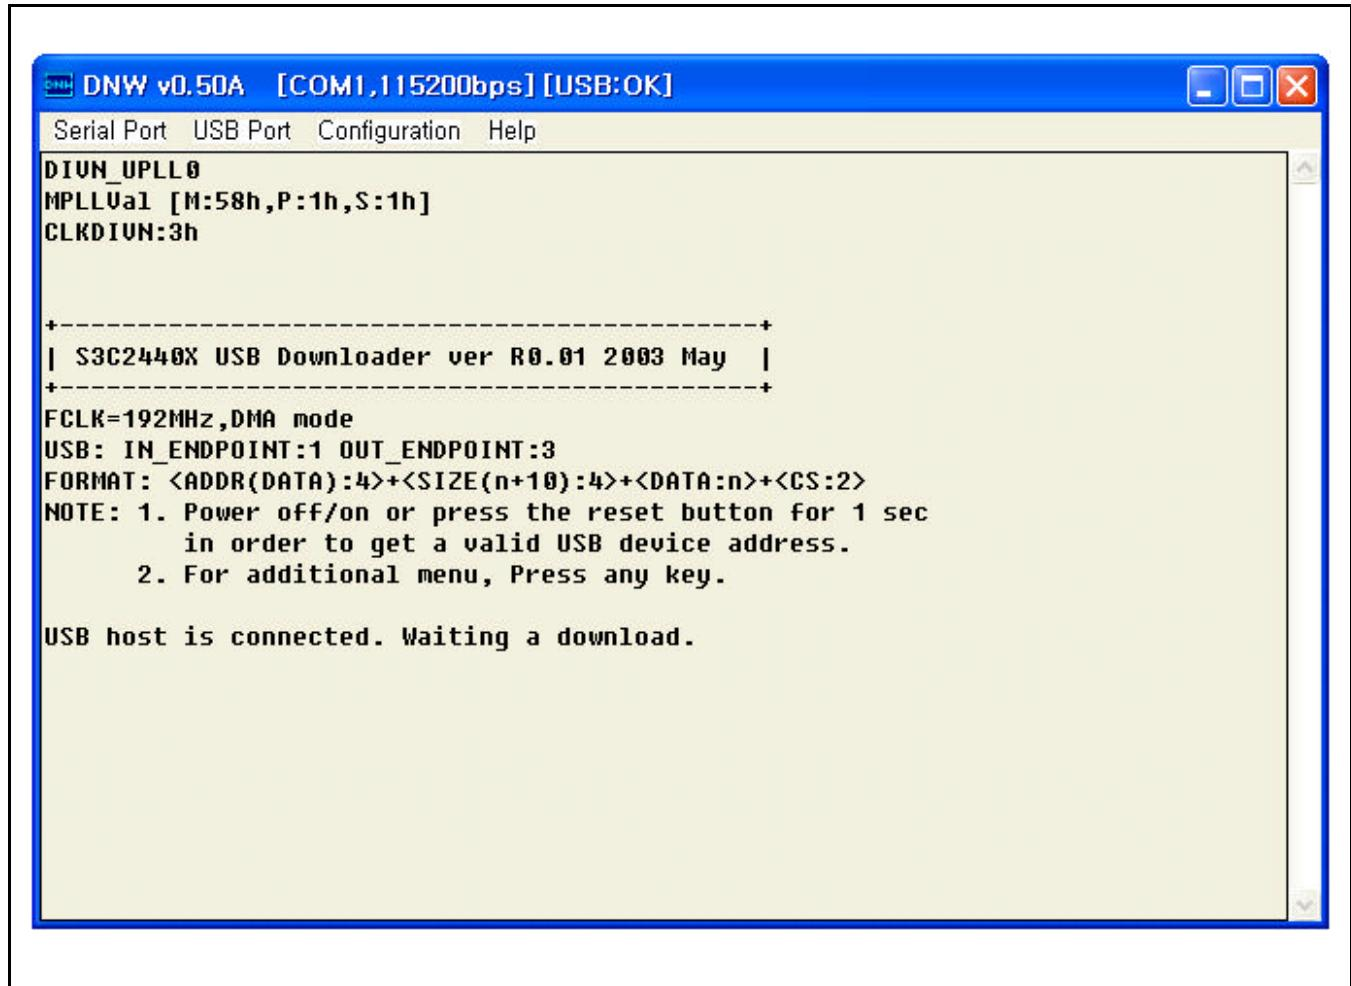

Figure 2-6. Power on Screen
2. Power on the SMDK2440 (See Figure 2-6).